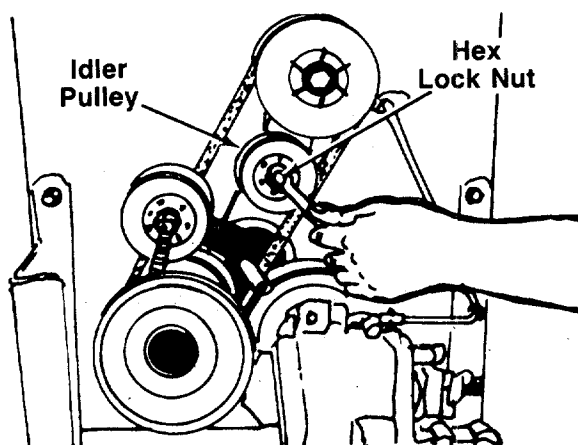

FIGURE 36.
8. Remove the idler pulley by removing the hex lock nut. See figure 36.